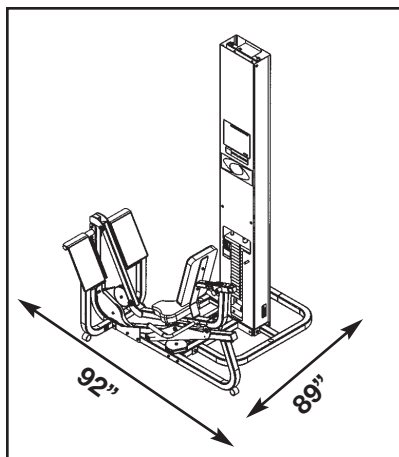

Figure 1
- D. For Free Standing configurations, allow a minimum amount 92" x 89" for operating space. See Figure 1.